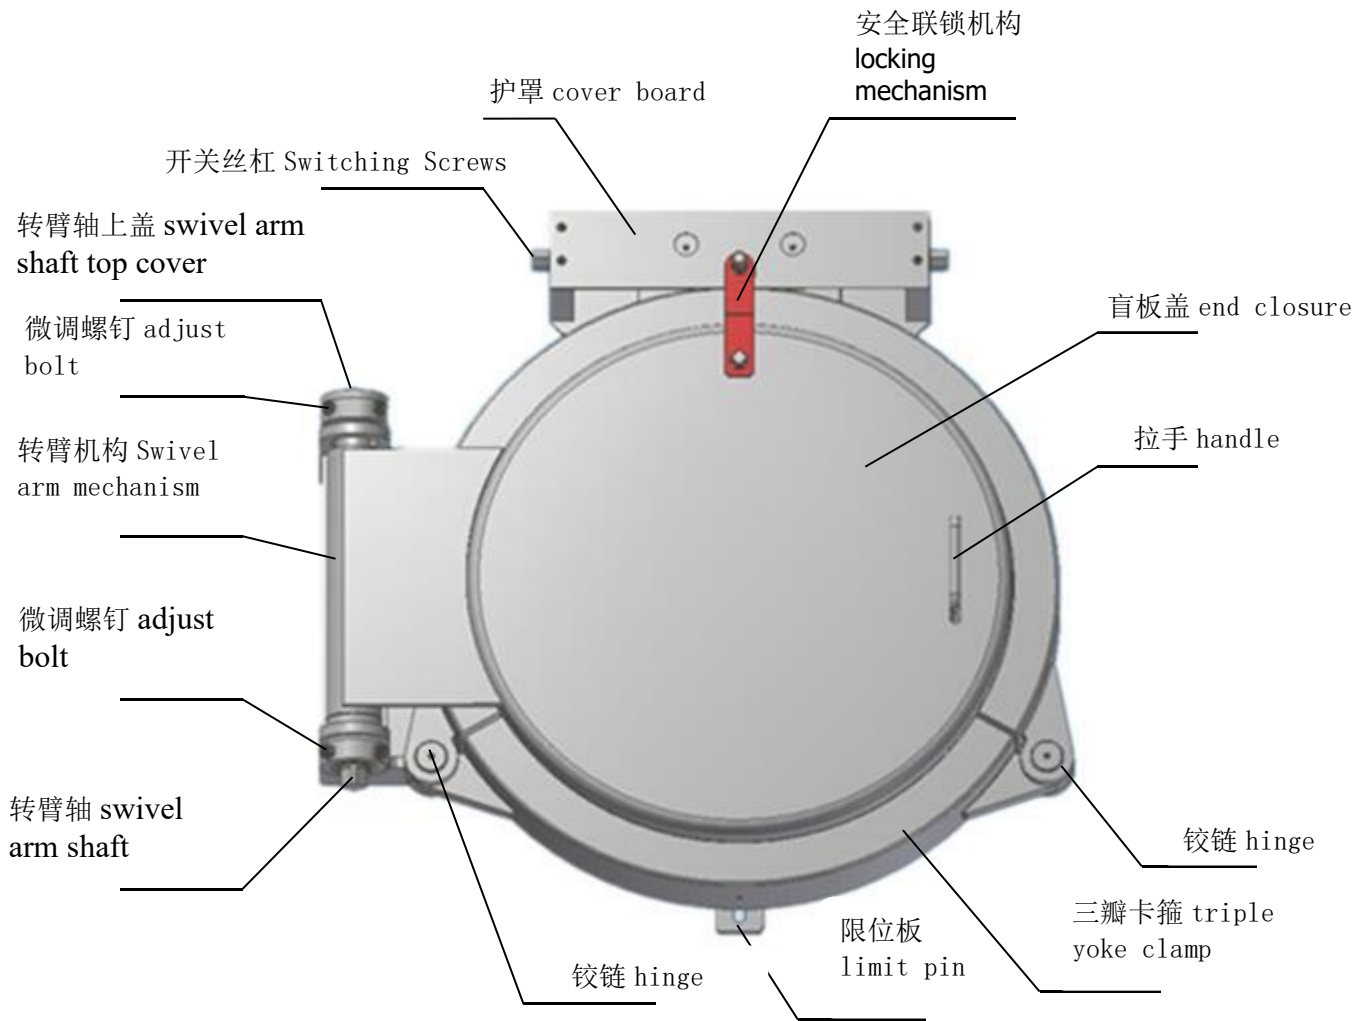

图 1 (picture 1)
- 2)... 按图 1 所示，拆下转臂轴上盖，松开微调螺钉，（上下各 4 件，共 8 件），将转臂轴拆下。拆卸过程中应避免转臂轴螺纹部分磕碰损坏；
2) Remove the swivel arm shaft top covert as shown in Fig. 1, loosen the adjust bolt, (4 pieces for each top and bottom, 8 pieces in total), and remove the swivel arm shaft. Avoid damage to the threaded portion of the swivel arm shaft by bumping during removal;